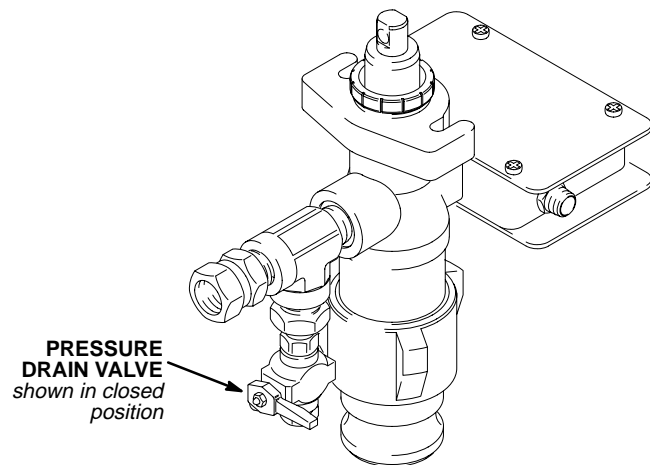

Fig. 5
1. Relieve pressure. Leave the drain valve open. See Fig. 5.